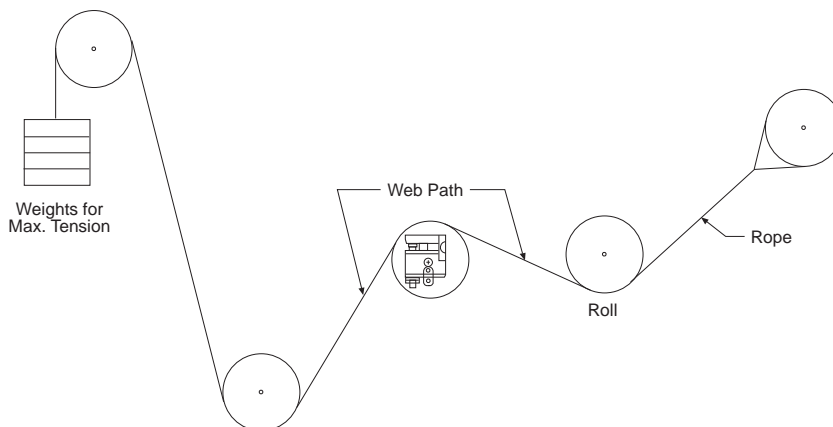

Figure 10
- 2. With one end of the rope secured, hang a known weight equally over the roll so that the total tension is equal to the maximum strip tension specified on the calibration sheet, at the other end. (See Figure 10)